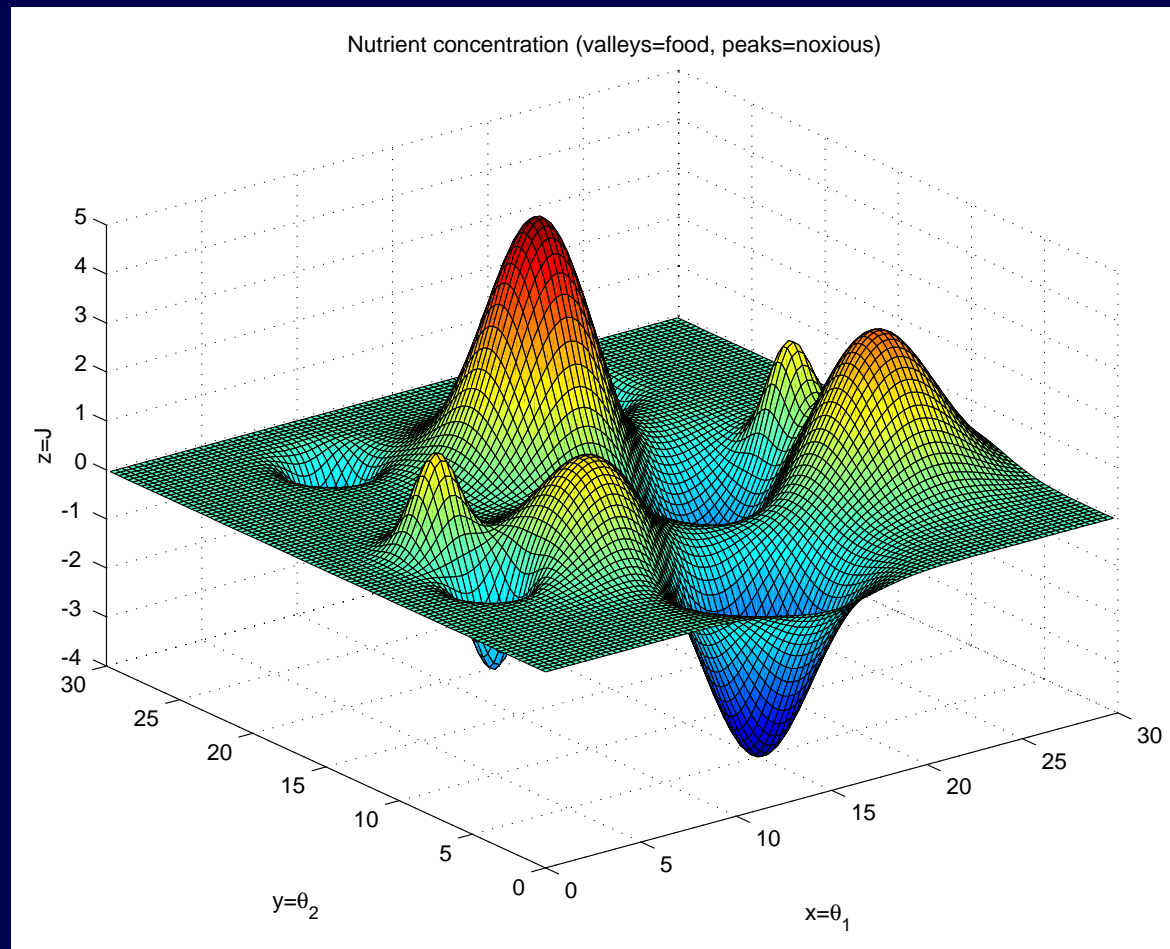

Figure 13: Function with multiple extremum points.
- Find minimum of function in Figure 13 ($[15, 5]^T$ is the global minimum point, $[20, 15]^T$ is a local minimum).